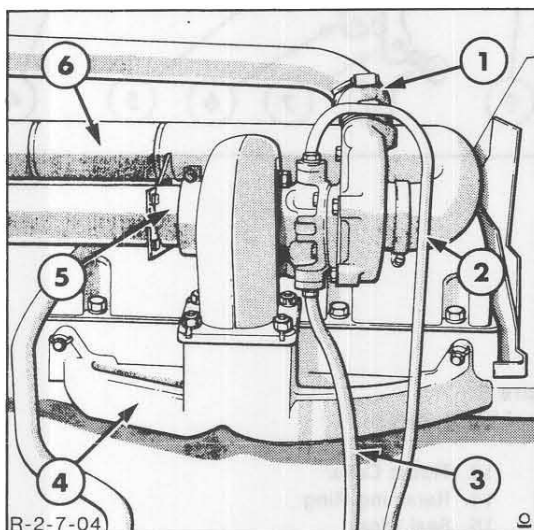

Figure 4
2. Remove the exhaust muffler by removing the turbocharger to exhaust muffler clamp, Figure 4, and support bracket.